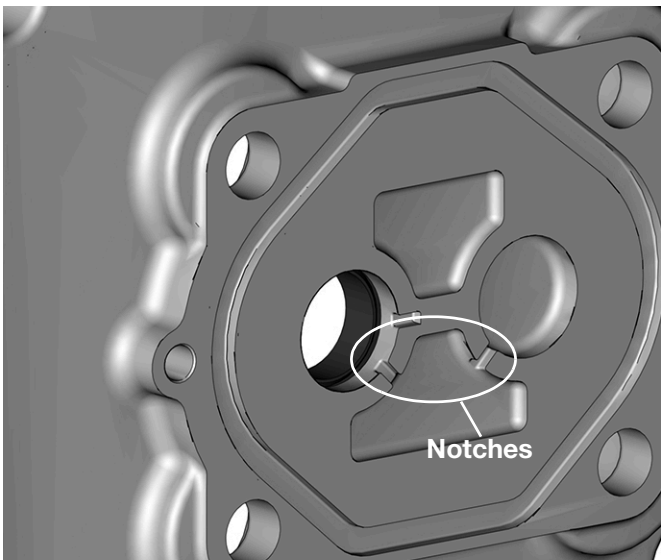
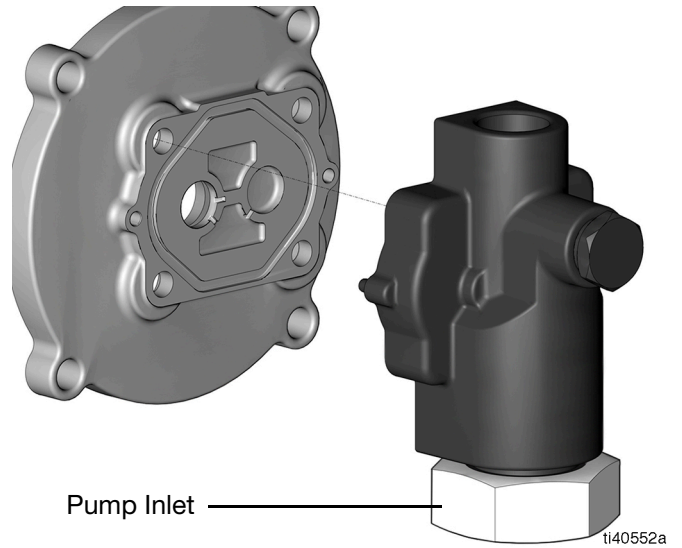

FIG. 12
FIG. 13
3. Position the adapter plate on the pump housing so that the notches point toward the pump inlet (FIG. 12 and FIG. 13).